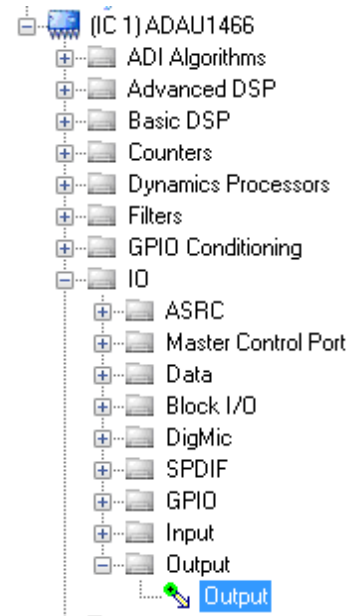

Figure 22. Output Block Selection
- i. From the (IC1) ADAU1466 > IO > Output folder, click **Output** (see Figure 22) and drag it into the project space to the right of the toolbox.